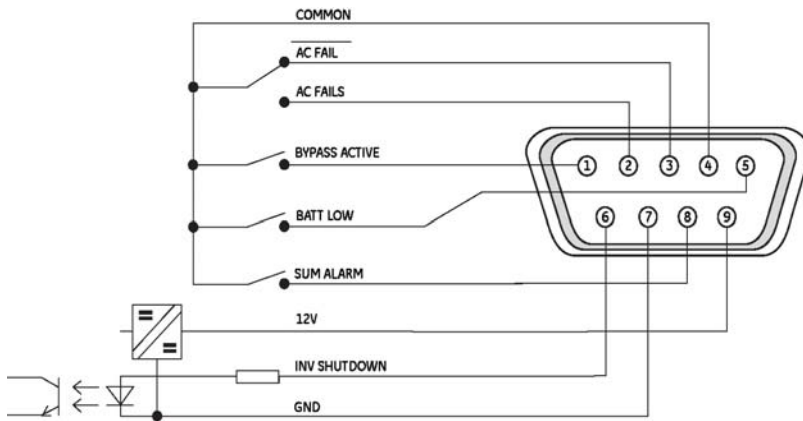

Fig. 5
- **Fig 5:** Sub D-9 Pin configuration